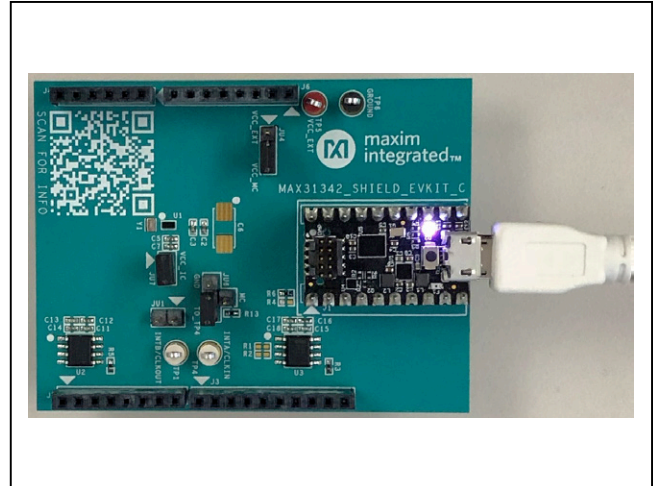

Figure 1. Connection and Setup
- 3) Connect the MAX32625PICO Board to the shield as shown in Figure 1.